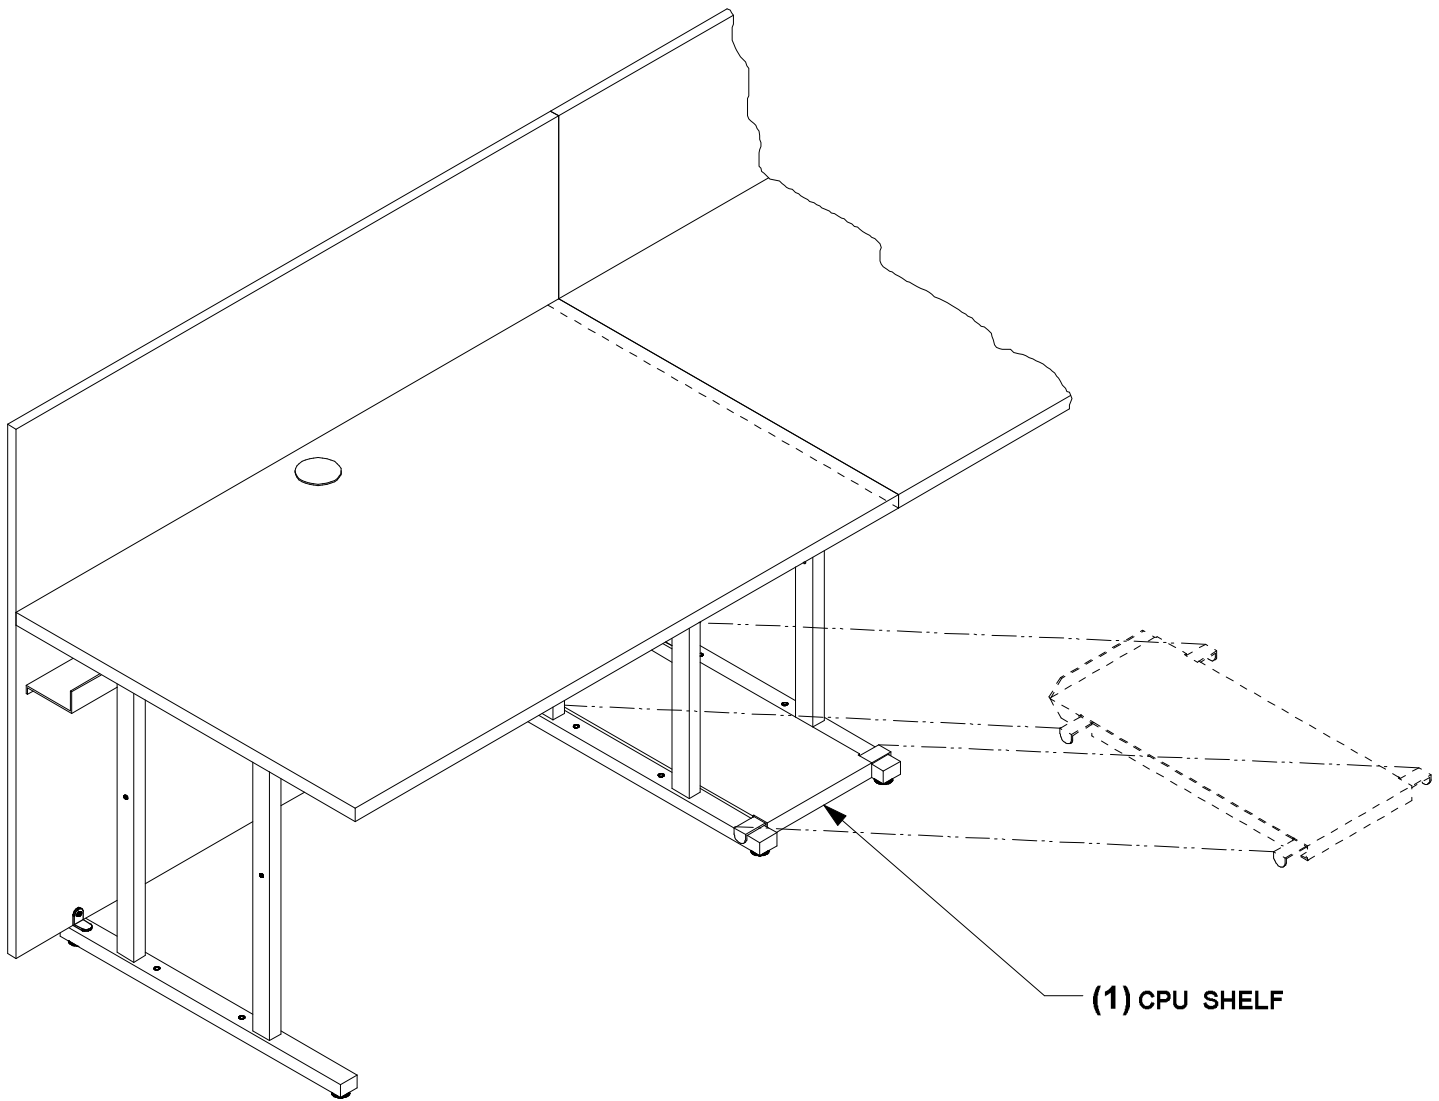

FIGURE 1
1. To install CPU SHELF (1), tip sideways when placing in between legs. Make sure CPU SHELF (1) is properly seated before using. (see figure 1)